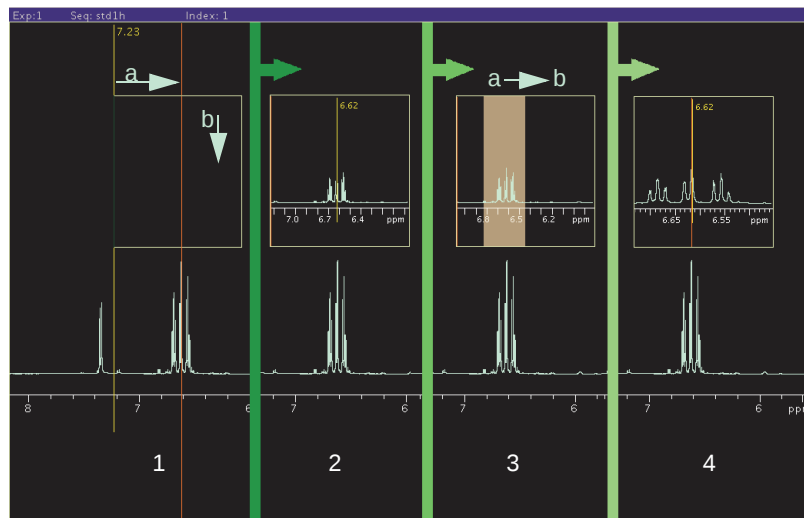

Figure 22. Creating an Inset Frame
2. Place the cursor at the low field (left) side of the region to be expanded as shown in Figure 22 frame 1a.
4. Drag the cursor down to set the height of the inset frame as shown in Figure 22 frame 1b.
5. Release the mouse button to create the inset frame, see Figure 22 frame 2.
4. Place the cursor at the low field (left) side of the region to be expanded as shown in Figure 22 frame 3a.
5. Hold the left mouse button down and drag the inset window to the high field (right) side of the region, Figure 22 frame 3b.
6. Release the mouse button and the selected region expands to fill the inset box, Figure 22 frame 4.